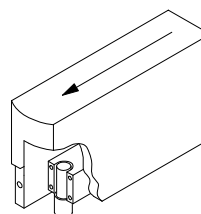
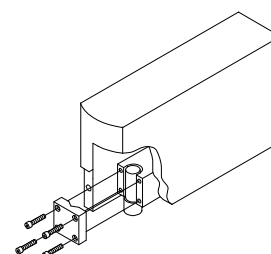

Figure 2
Figure 3
5. Maneuver door into position, about 90° to frame. Position door so door pivot leaf mates with pivot pin as shown in Figure 2. Re-attach pivot clamp as shown in Figure 3. Do not tighten clamp screws completely. Engage pivot leaves at top of door. Now tighten clamp screws securely.